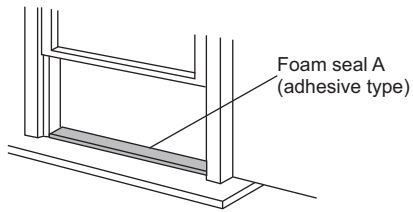

Fig.8
1. Trim foam seal (with adhesive) to the proper length and attach to window stool (Fig.8)